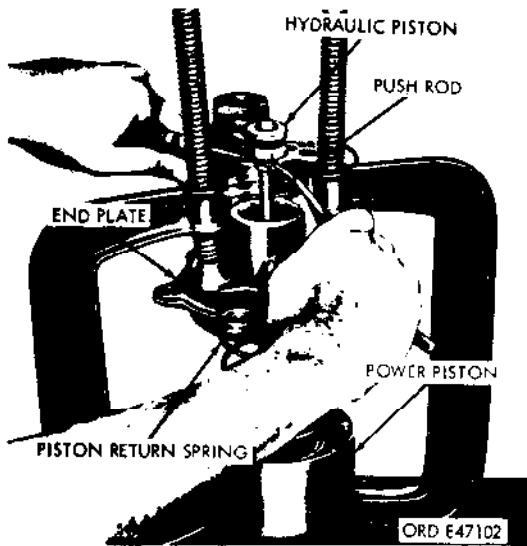

Figure 312. Removing or installing hydraulic piston for air-hydraulic (Air-Pak) power cylinder
- (b) Clamp the piston plate nut (H) in a vise. Press down on the end plate to compress the piston return spring (Z) and clamp the piston to the plate with two C-type clamps engaged over the piston and the end plate (fig. 312).